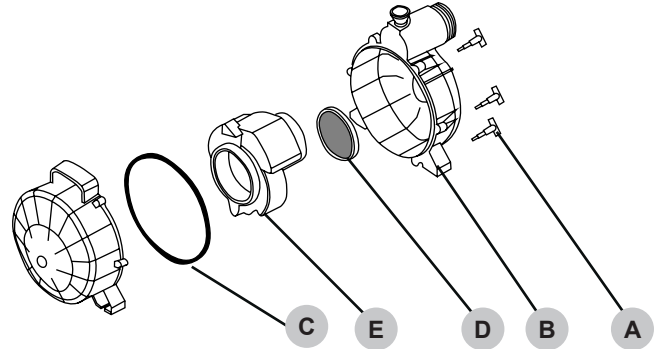

Fig. 19
6. Remove the outer pump housing cover bolts (Fig. 19 - A)
7. Remove the outer pump housing cover (Fig. 19 - B) and its rubber seal (Fig. 19 - C).
8. Remove the check valve (Fig. 19 - D).
9. Remove the impeller/volute (Fig. 19 - E).